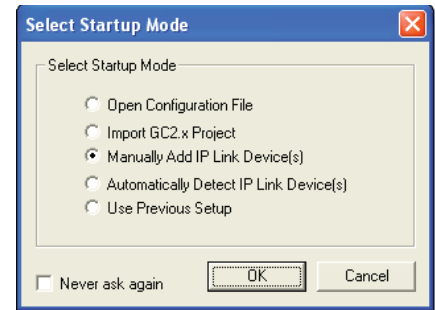

Figure 45. IP Link File Manager Select Startup Mode Window
2. Start the IP Link File Manager (IPLFileManager) software on the connected PC. The main IP Link File Manager window appears on screen, as does the smaller Select Startup Mode window, shown in figure 45.